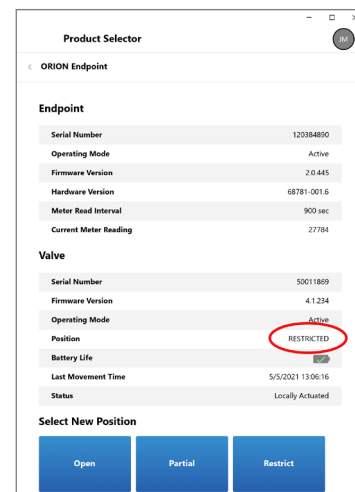

Figure 30: After actuation, Valve is restricted
3. The screen shows the current valve position is **Open**. Under the heading **Select New Position**, select the new valve position. In this example, we selected **RESTRICT**. The valve starts moving almost immediately. When actuation is completed, the new position is shown (Figure 30).
After the valve moves to the new position, the software performs another READ automatically and updates the valve properties on the screen with the new valve position, RESTRICTED (Figure 30).